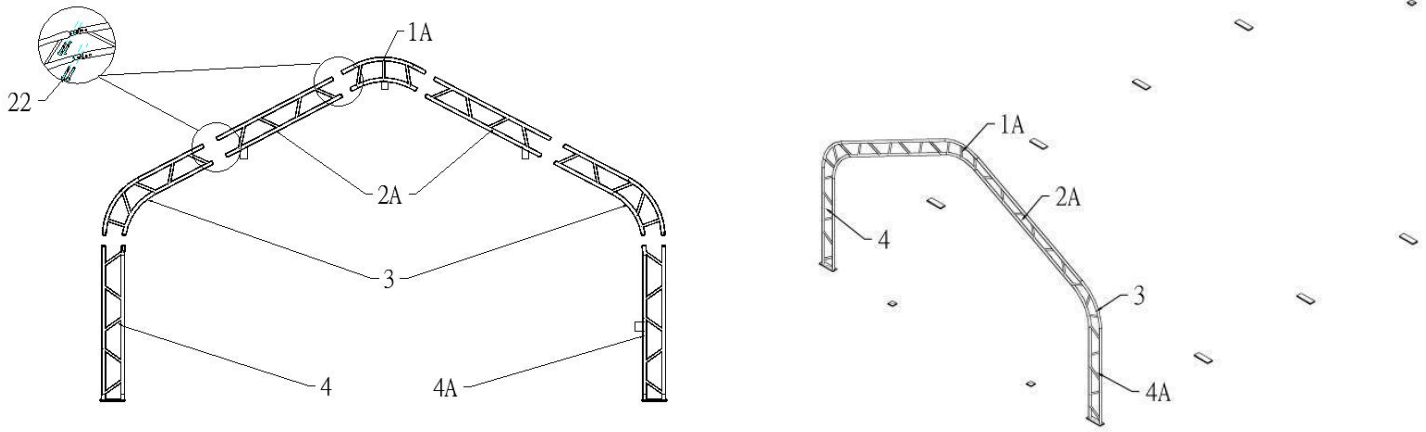
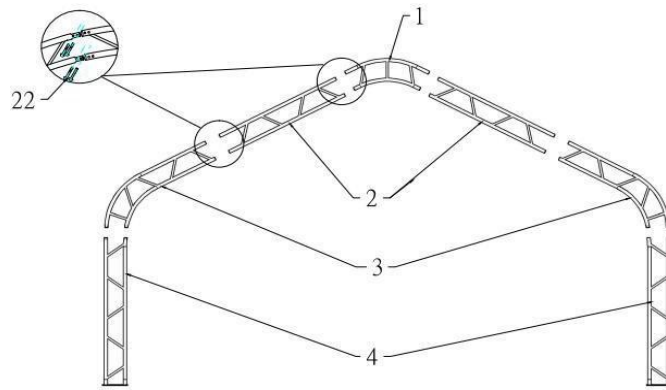
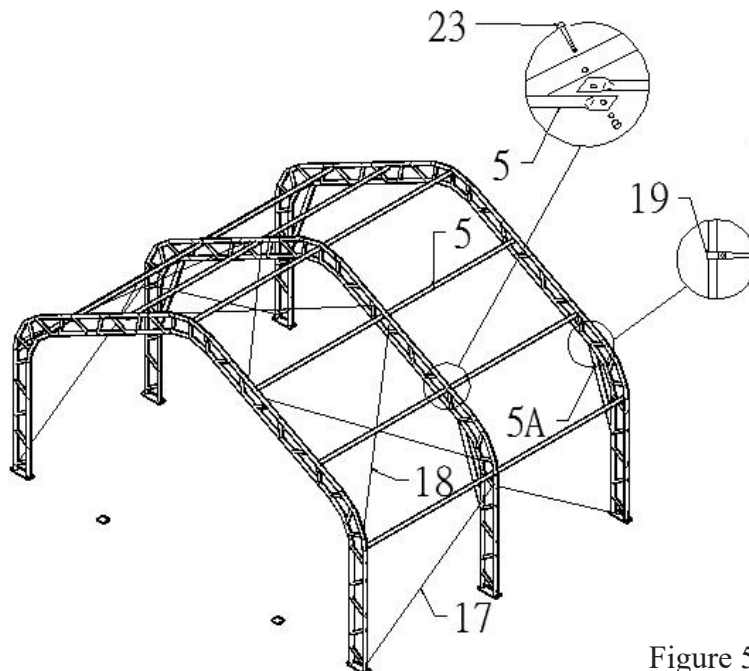

Figure 3
Figure 4
Figure 5
1. Figure 3 shows to connect the Roof bent tube for front and back door (No.1A), Sidewall bent tube for front and back door (No.2A), Shoulder bent tube (No.3), Standing leg (No.4) and Standing leg for front door (No.4A) with Bolt 8x60 (No.22), then put the arch into tube of the Base flange by hoist (see Figure 4)
2. Figure 4 shows to connect the middle groups' Roof bent tube (No.1), Sidewall bent tube (No.2), Shoulder bent tube (No.3), and Standing leg (No.4) with Bolt 8x60 (No.22), then put the arch into tube of the Base flange by hoist, and assemble every group arch by turns (see Figure 5)
3. Connect Purlin(No.5) to arch by using Bolt 10x70mm (No.23) by turns(see Figure 5),then connect the Steel wire(NO.17 and NO.18) on top and side and the diagonal bar at shoulder(No.5A) by using Clip(No.19) (see Figure 5).